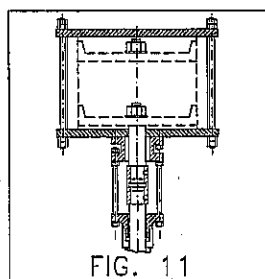

FIG. 11
- *Figure 11* ► it represents a hydraulic or pneumatic actuator.